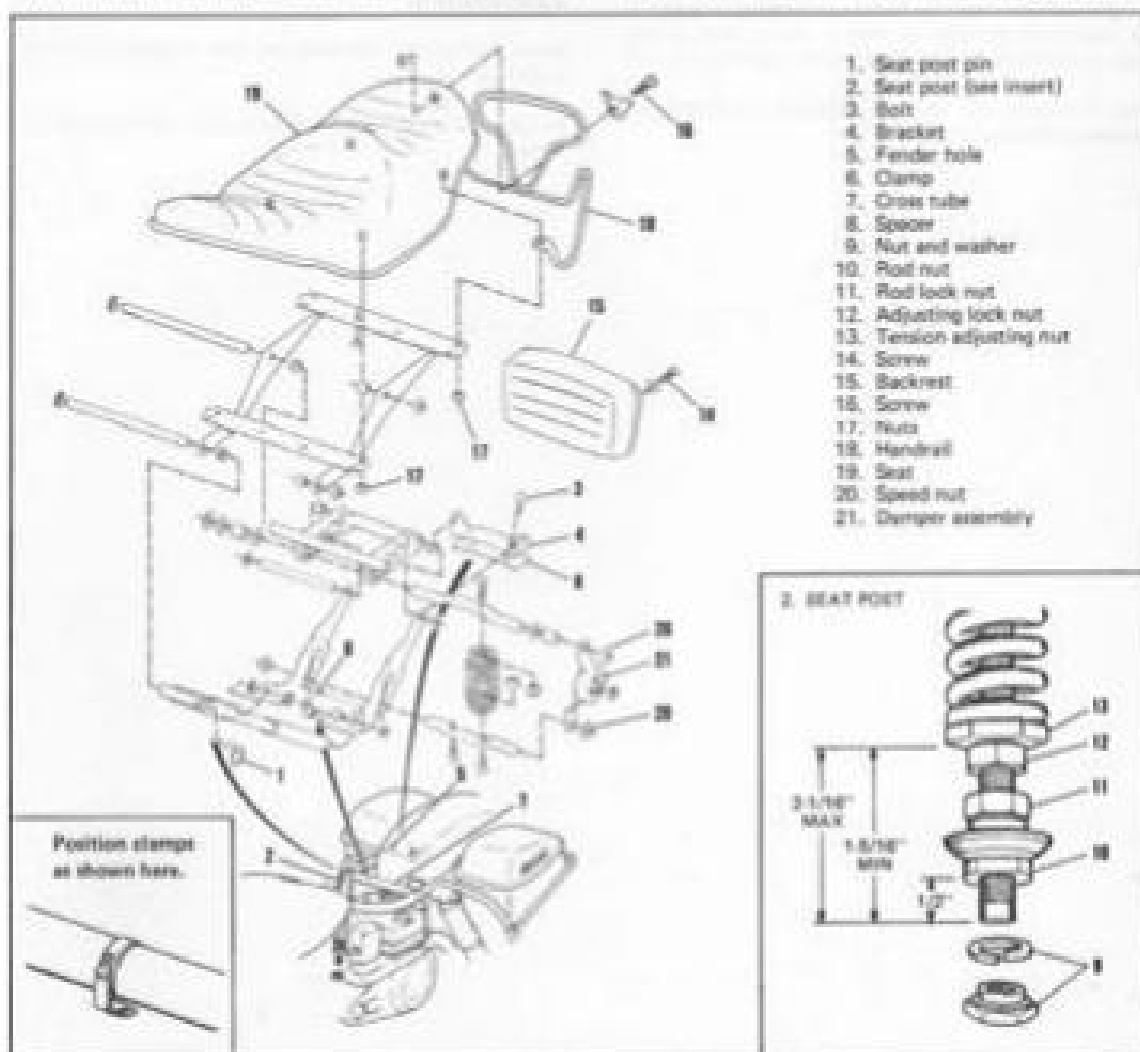

Figure 2-50. Comfort Flex Seat - Exploded View
REMOVING AND INSTALLING SEAT ASSEMBLY (Figure 2-50)
ances. The seat post height should be $3 \pm 1/16$ in. from seat post frame to centerline to post pin hole. With upper shaft (1, Figure 2-48) in fifth or rear most slot, the seat should compress fully to its stops and the gas tank clearance must be 1-1/2 in. minimum. There should be adequate clearance between seat and fender, luggage carrier with Tour-Pak, and saddlebags. If seat post height requires adjustment, proceed as follows. Refer to Figure 2-50, remove nut and washer (8) from bottom of seat post and remove seat post from motorcycle. Adjust rod nut (10) to obtain 1/2 in. dimension shown in figure. This dimension should give the seat the correct dimension of $3 \pm 1/16$ in. Note that adjusting locknut (12) can be removed completely from the assembly and not used at all if necessary to achieve the $3 \pm 1/16$ in. dimension.
After removal from motorcycle, the seat assembly is partially disassembled by removing items 14 through 20 in the order shown in Figure 2-50. Reassemble in reverse order.